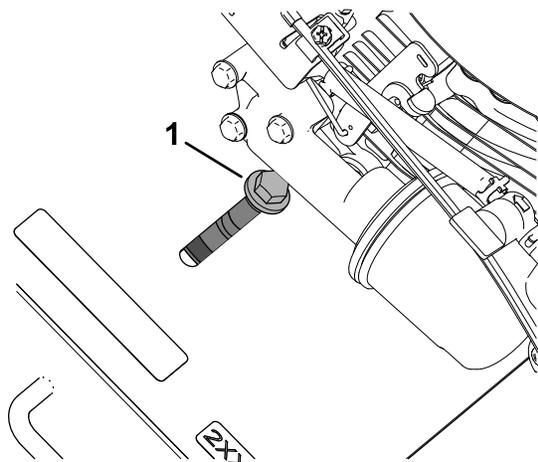
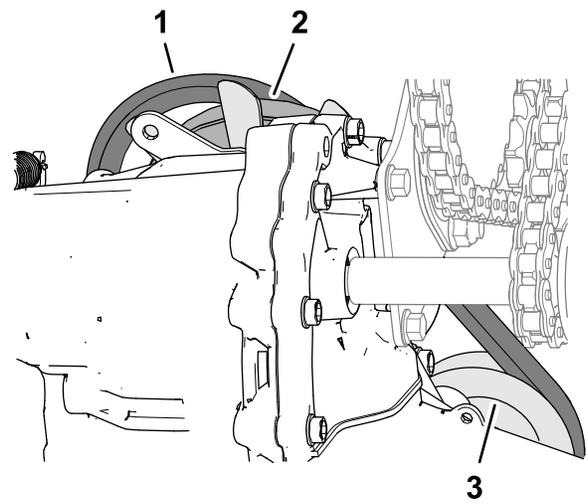

Figure 51
Figure 52
2. Loosen the flange locknut and capscrew that secures the belt idler pulley to the frame of the machine, move the idler pulley inboard, and remove the belt from the transaxle pulley (Figure 51 and Figure 52).